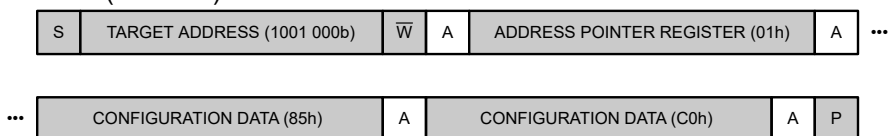
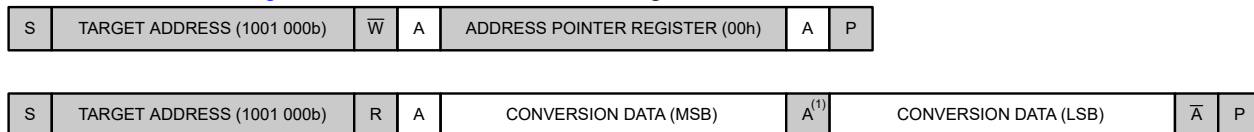
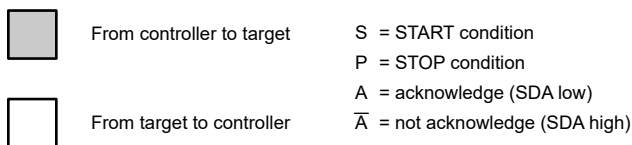

Figure 9-5. Write the Configuration Register
Figure 9-7. Read the Conversion Register
Figure 9-8. Legend for the I²C Sequence Diagrams
3. Then, as shown in Figure 9-7, read the Conversion register.
To save time, a new conversion can also be started (step 4) before reading the conversion result (step 3). Figure 9-8 lists a legend for Figure 9-5 to Figure 9-7.